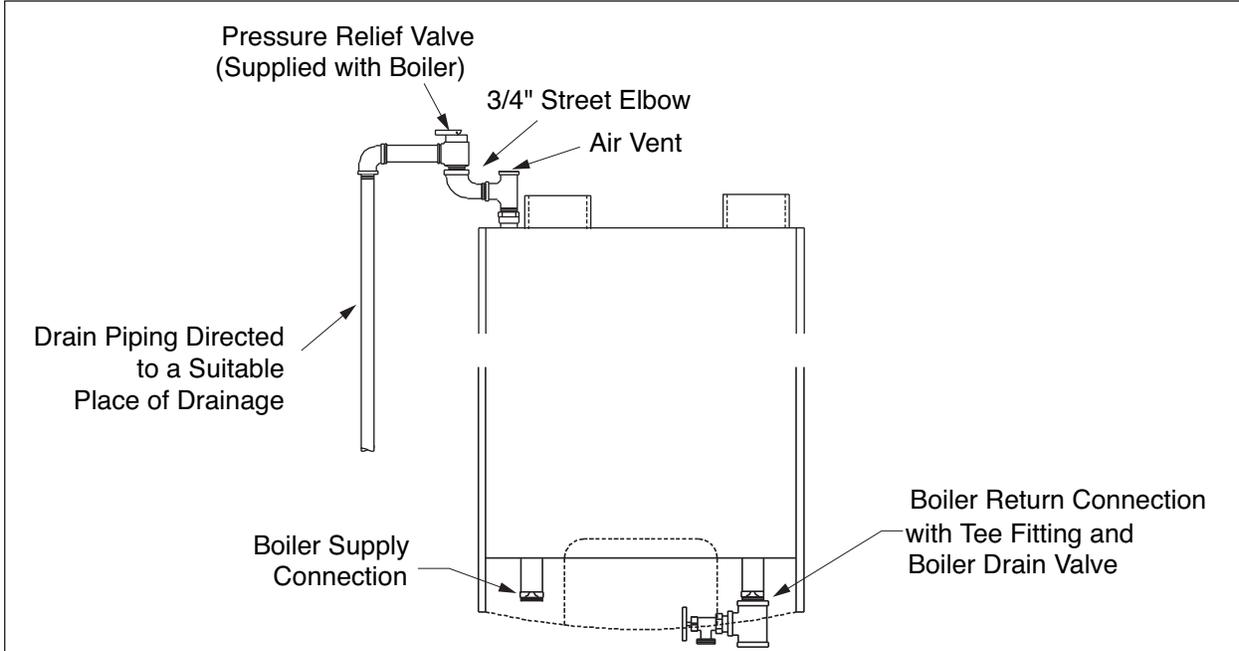

Fig. 5: Pressure Relief Valve and Boiler Drain Valve Installation
1. The PRESTIGE Solo is supplied with a 30 psi pressure relief valve and must be piped using the PRV connection as shown in Fig. 5 page 15.
If an indirect fired water heater is not utilized cap the (1" NPT) DHW connection with an adequate amount of pipe dope to ensure a seal. See Fig. 5 on page 15 for location of DHW connection